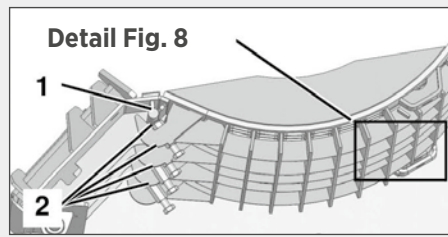

Fig. 7: Replaceable basket with arch downwards
- Ensure that the four hex bolts on the hooks (fig. 7/2) of the replaceable rear basket grid are firmly in contact with the center of the weld axis (fig. 7/1) of the replaceable rear basket grid holder.